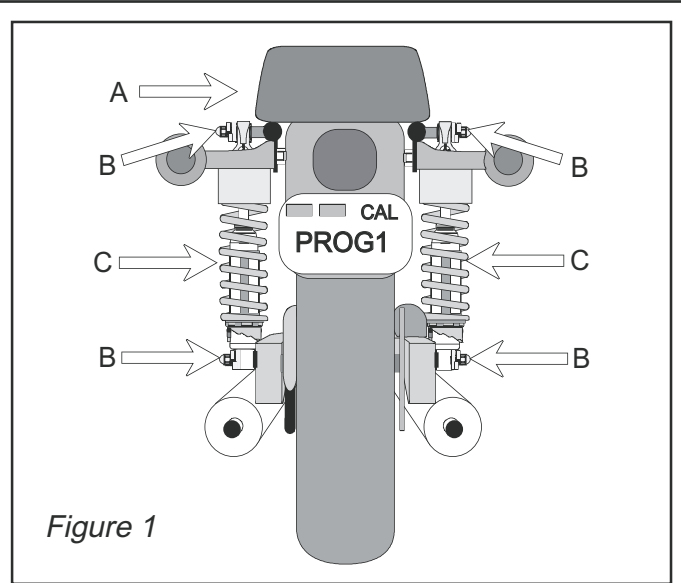

Figure 1
- Before installing your new Progressive shocks you need to check the tire to fender clearance, (see A in figure 1) making sure that the tire does not come in contact with the fender. If the rear fender or tire has been changed to anything other than stock, a travel limiter may be required. On some models with side bags or luggage, removal of the top cover may be required to eliminate any interference. Install shock assemblies onto motorcycle and tighten mounting bolts/nuts to proper torque. Check clearances shock to frame (B) and shock to chain, chain guide, disc caliper and linkage (C) in figure 1. Offset lower eye may be rotated in or out to gain clearance where required. This can be used to gain clearance for the lower cover, if this does not work, removal of the lower cover may be necessary.